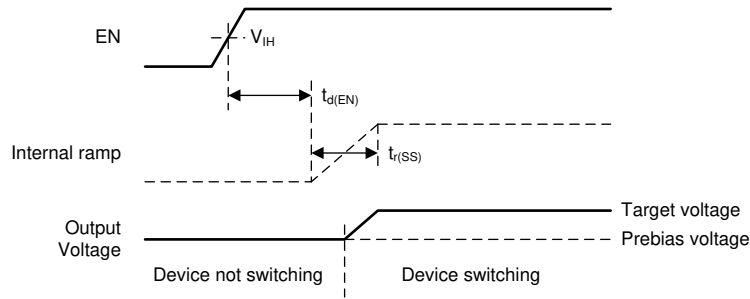

图 6-8. Start-Up Behavior into Prebiased (Low) Output
- If the prebias voltage is *lower* than the target voltage, the device does not start switching until the ramping output voltage is greater than the prebias voltage (see 图 6-8).